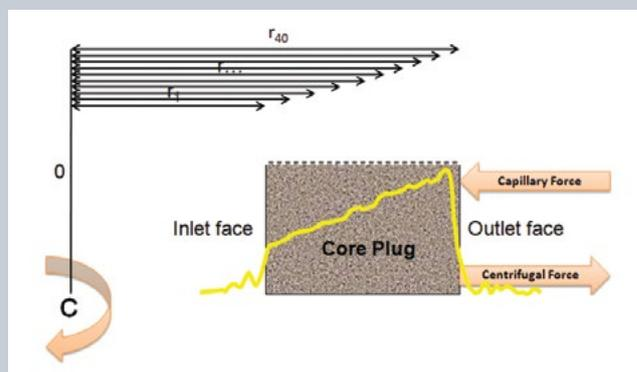

Figure 1: GIT-CAP capillary pressure technique measuring 30 - 40 data points
The patented GIT-CAP capillary pressure measurement technique uses capillary pressure theory combined with NMR-determined saturation profiles, allowing for the accurate development of capillary pressure curves. With this technique, the core plug is first fully saturated with brine, and is then centrifuged to create a distribution of fluid in the plug which is in turn dependent on capillary pressure. The fluid distribution is quantified using NMR. The capillary pressure at each position along the plug at hydrodynamic equilibrium is derived from equation (1) and the saturation at the corresponding positions is measured using NMR (illustrated in Figure 1).